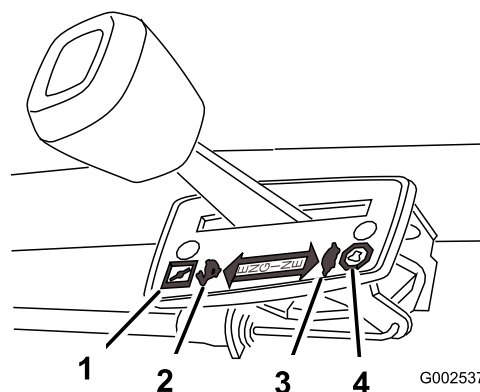
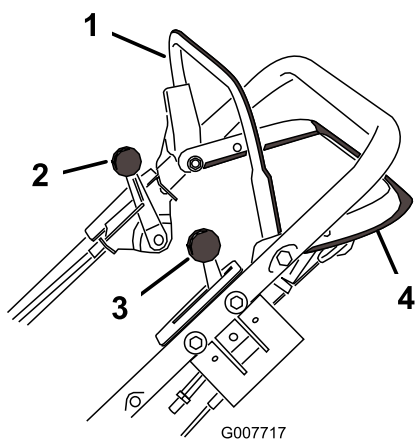

Figure 11
Figure 10
The blade control bar, control bar lock, ground speed control lever, throttle control lever, and traction control bar are on the upper handle as shown in (Figure 10).
The throttle settings are shown in (Figure 11).
4. Move the ground speed control to the Neutral (N) position (Figure 10 and Figure 11).
The lawn mower has 3 ground speeds: 1 is slow, 2 is medium, and 3 is fast. the ground speed control is located on the upper handle (Figure 11).